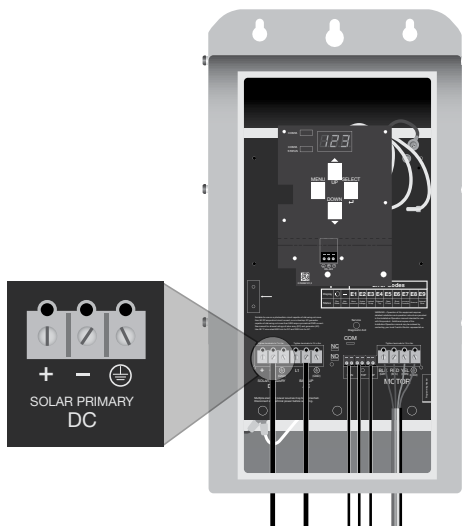

Figure 5. DC Wiring Connection
4. Connect the cables from the external DC disconnect to terminal block labeled "Solar Primary DC" to terminals marked +, - and GND. (Figure 5) (Torque specification: 15 in-lbs/ 1.7 N-m).